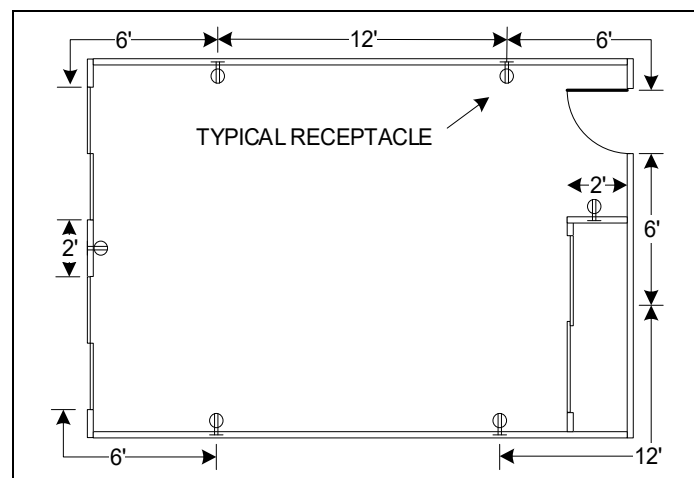

FIGURE 15: Typical Outlet Distribution
- Receptacles shall be placed so that no location along the floor/wall line is more than 6’ from a receptacle. FIGURE 15